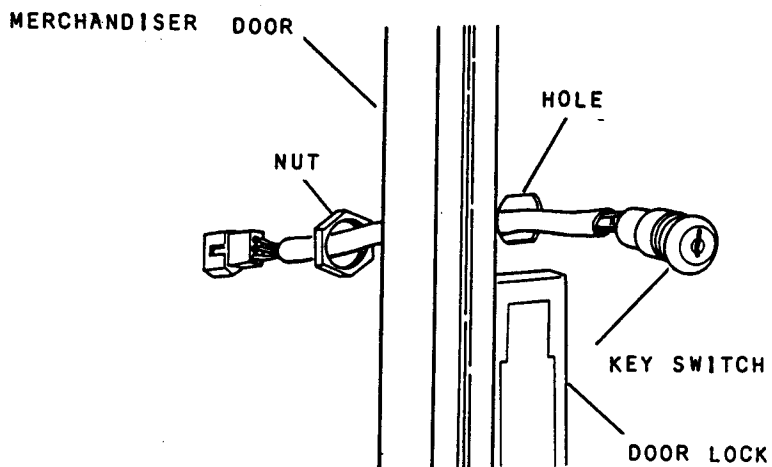

FIGURE 3
3. Replace nut and tighten securely. See Figure 3.